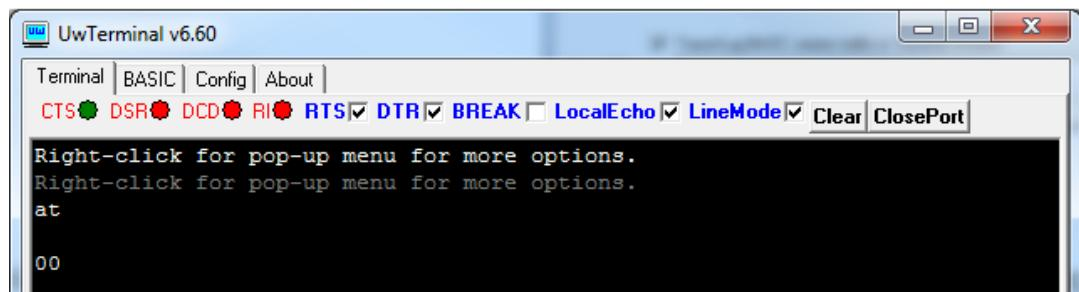

Figure 11: COMMS OK
3. Confirm you can communicate with the development board by typing `at` followed by a return. The module responds with `00` (Figure 11).